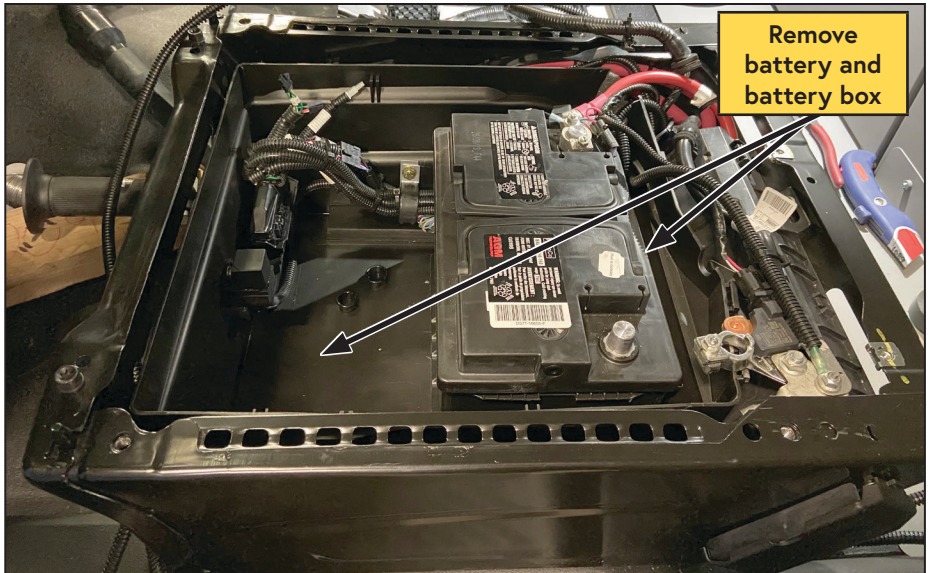

Figure 47 — Remove battery box
- Remove the battery and battery box (Figure 47).